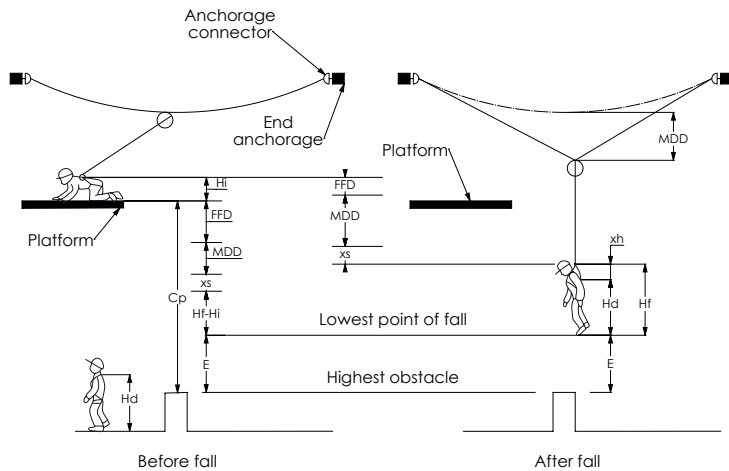

Figure 2 - Calculating minimum clearance distance below the work platform when using a lanyard or SRL
- Minimum clear free fall distance required below users working platform The following formula shall be used to calculate the required minimum clearance below the platform:  $C_p = FFD + MDD + x_s + (H_f - H_i) + E$  (Refer to Legend in Figure 2).